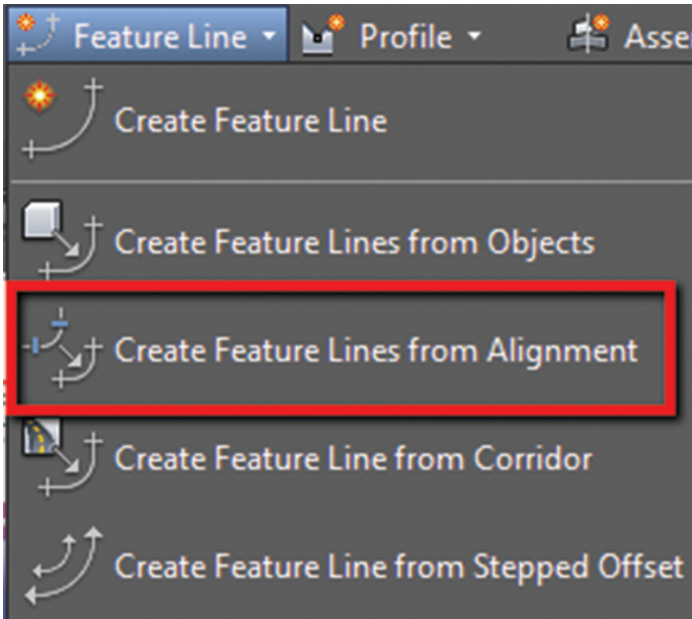

Figure 4
1. From the Home tab > Create Design panel > Feature Line drop-down > Create Feature Lines from Alignment (see Figure 4)